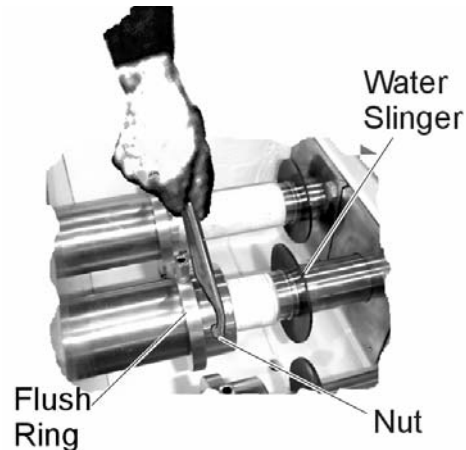

Figure 29 Remove Nuts
7. Use spanner wrench to loosen cylinder nut (clockwise, facing headblock front). See Figure 29.